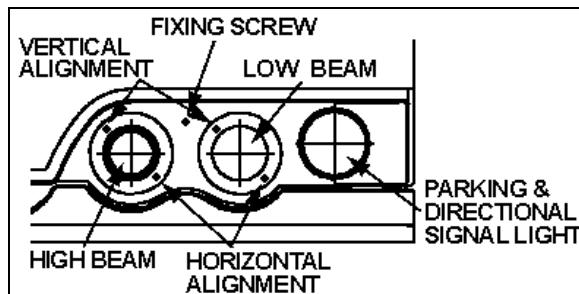

FIGURE 30: HEADLIGHT ASSEMBLY
Headlight aim should be checked after installing a new bulb. Aiming can be performed without opening headlight assembly. Horizontal and vertical aiming of each module is provided by two adjusting screws that pivot the module in the housing for proper alignment (fig. 30). There is no adjustment for focus since the module is set for proper focus during manufacturing assembly.
2. Remove the headlight screw fixing the headlight assembly, then tilt headlight assembly down (Fig. 30 and 31).